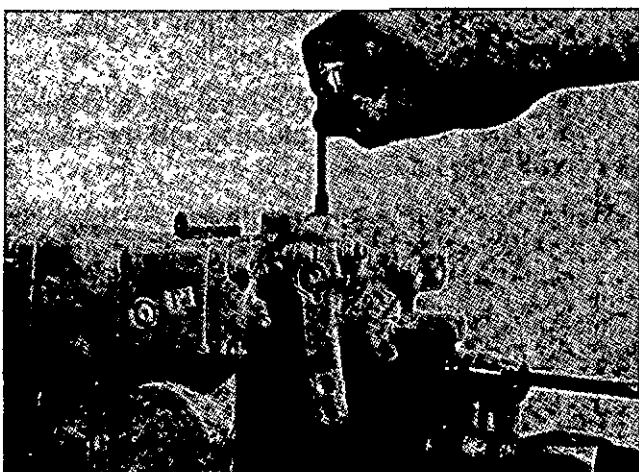

Fig. 10-39, (F5375). Set the VS maximum governing speed.
10. Run the pump at the rated rpm. Turn the VS maximum speed screw (top screw) in until the pressure starts to decrease, Fig. 10-39.